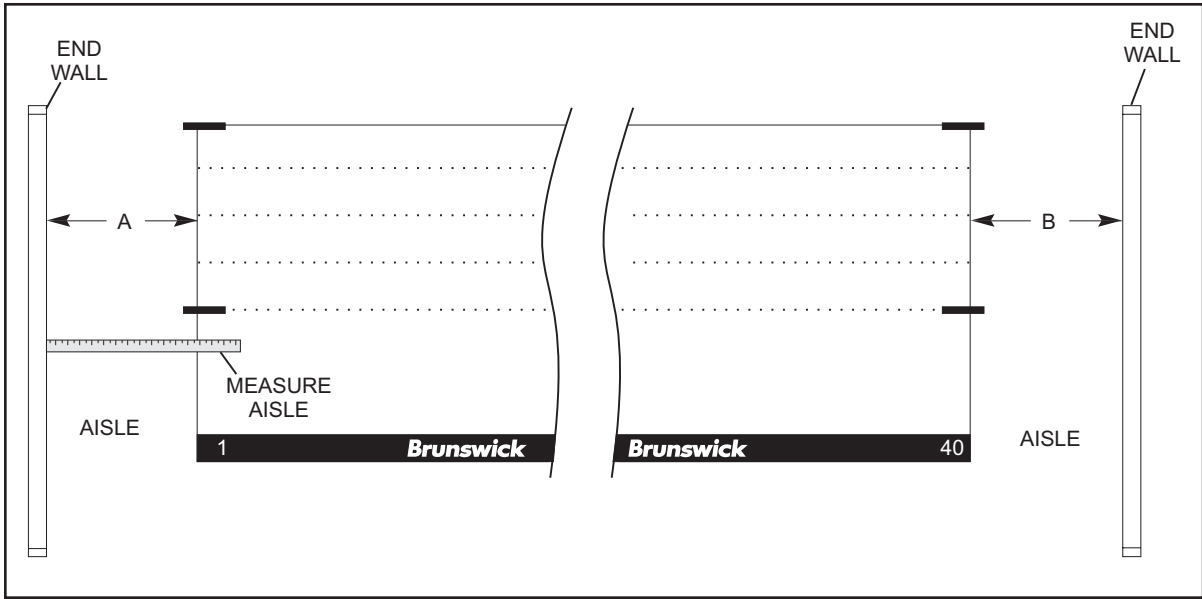

Figure 59
1. Measure "A" and "B" for aisle graphic panels. Refer to *Figure 59*.